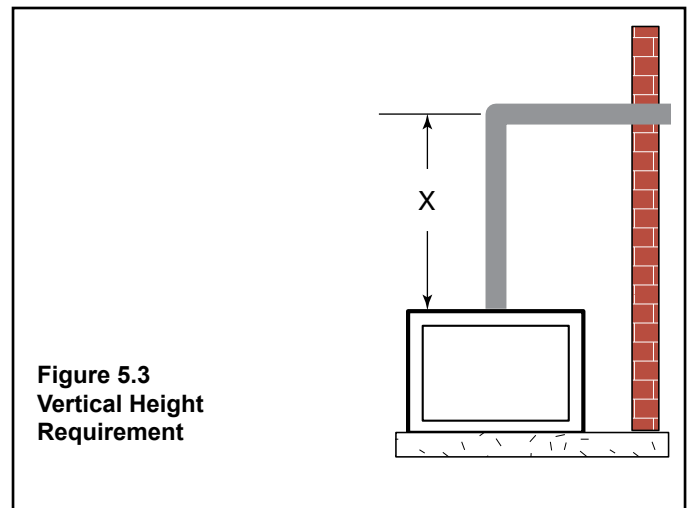

Figure 5.3
Place fireplace into position. Measure the vertical height (X) required from the base of the flue collars to the center of the wall opening. See Figure 5.3.